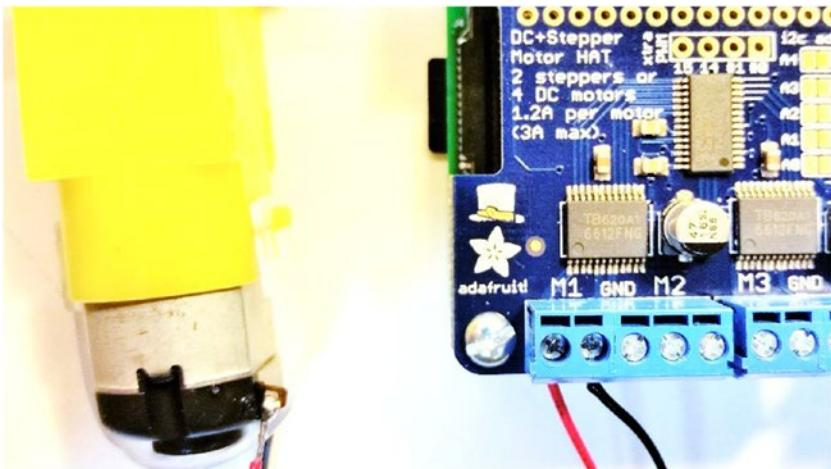

Figure 6-18. Motor connected to the Motor HAT
2. Insert one of the tinned leads into the hole on the side of the terminal block marked M1 (see Figure 6-18). It doesn't matter, which wire goes to which port, as long as both wires go to different ports for the same driver (in this case, M1) .